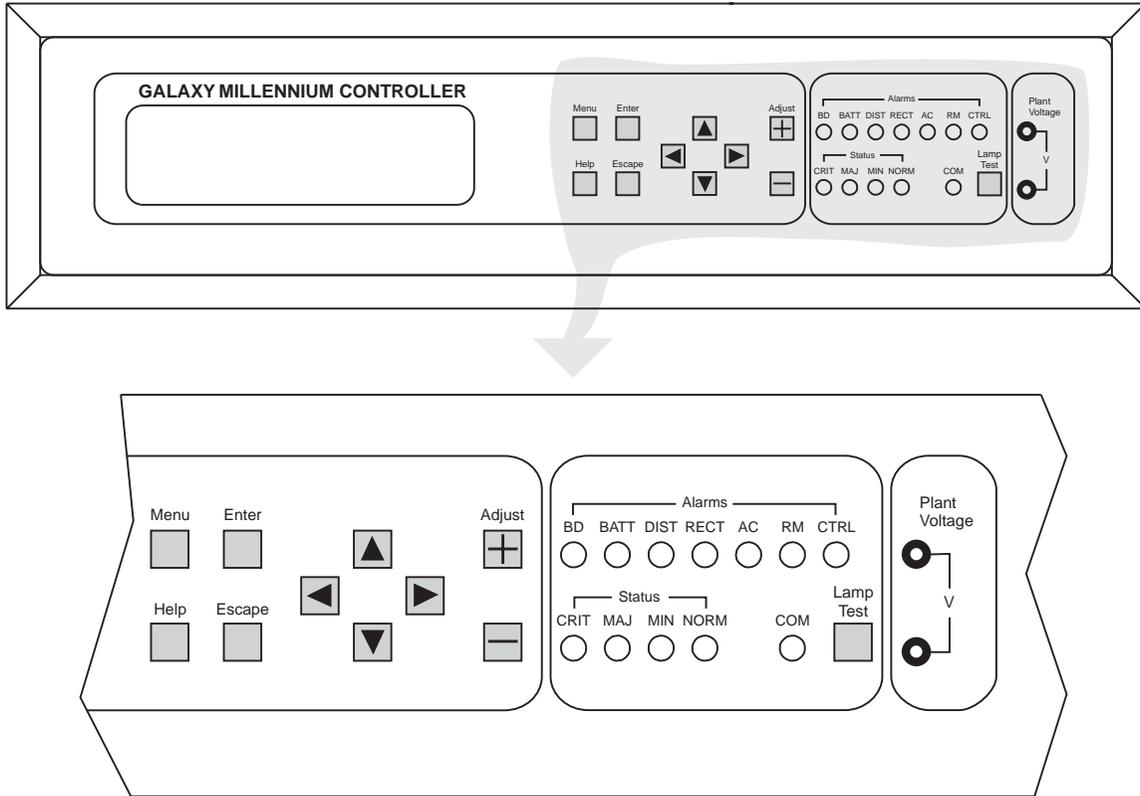

Figure 15-1: Galaxy Millennium Controller Front Panel
- Figure 15-1 Millennium Controller